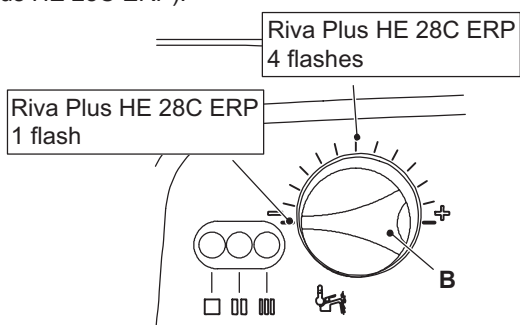

Figure 10.9
At this step it is possible to visualize the current setting by keeping the reset button D pressed for more than 5 seconds. The lamps F will flash a number of times corresponding to the setting Figure 10.9 (once for Riva Plus HE 24C ERP and four times for Riva Plus HE 28C ERP).
- 9 To change the setting turn the knob B on a position corresponding to the boiler models (Figure 10.9). By turning the knob B, the lock-out signal lamp E blinks quickly (2 per seconds) indicating that the setting has changed and must be memorised.